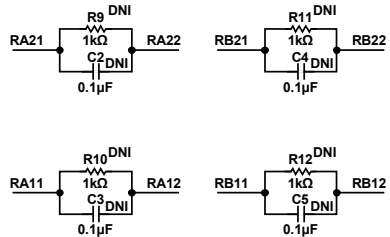

Figure 8. EVAL-ADAQ8088EBZ Feedback Resistor/Capacitor Placeholders
- On the EVAL-ADAQ8088EBZ, confirm that the jumpers are installed as shown in Figure 8.